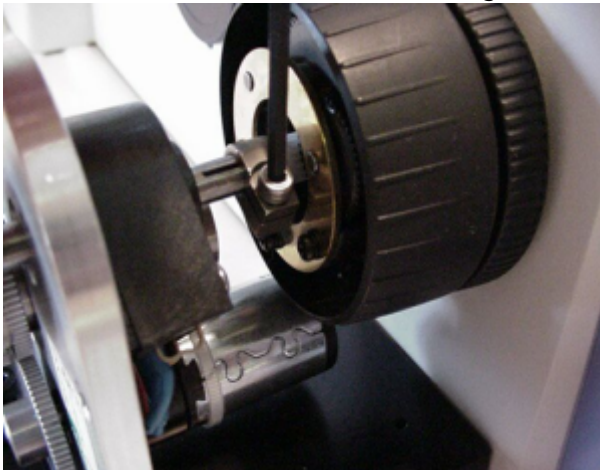

Figure 8 Tighten the clamp on the fine focus shaft
Figure 7 Install Z-drive over fine focus shaft, and insure that tab on the end of the clamp goes into the slot on the brass piece, or white gear. Hold the clamp firmly against on the brass piece, or white gear, and use the 7/64" Allen wrench to tighten the clamp as shown in figure 8.
b) Locate the ASI fine focus motor drive and vertical adjustment screw (M4 x 12 hex head screw removed when the base plate was installed). Align the drive shaft on the ASI drive with the microscope fine focus shaft and slide the motor drive over the fine focus shaft as shown in figure 7. Insure that tab on the end of the clamp goes into the slot on the brass piece, or white gear. Hold the clamp firmly against on the brass piece, or white gear, and use the 7/64" Allen wrench to tighten the clamp as shown in figure 8.